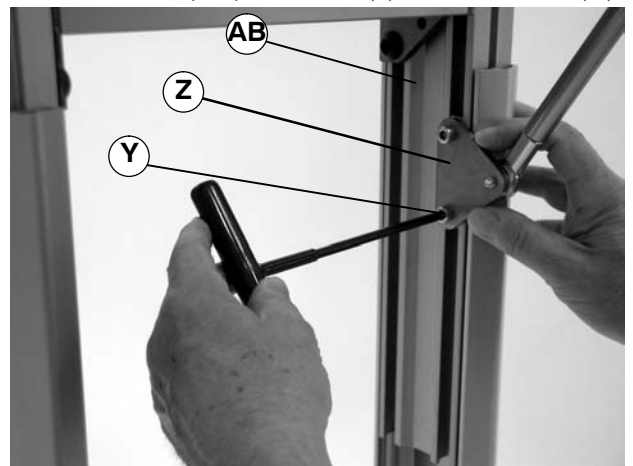

Figure 8
- b. Attach the support stand tie plate (Z of Figure 8) to the stand (AB) with two (2) socket screws (Y).
<p>! WARNING</p> <p>Failure to secure screws (Y of Figure 8) may cause conveyor sections to drop down causing severe injury.</p> <p>TIGHTEN SCREWS (Y) AFTER ADJUSTMENT.</p>
- c. Tighten socket screws (Y of Figure 8) to 100 in-lb (11 N-m).